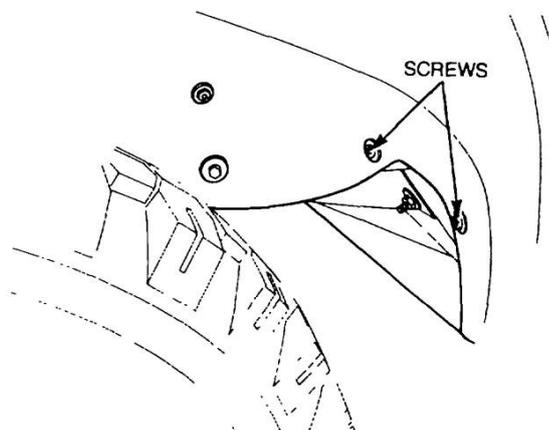

Figure 154 Removal of the Mudguard-to-toe Board Bracket
- n. Remove the two screws and washers securing the inner guard to the toe board bracket (Figure 154).